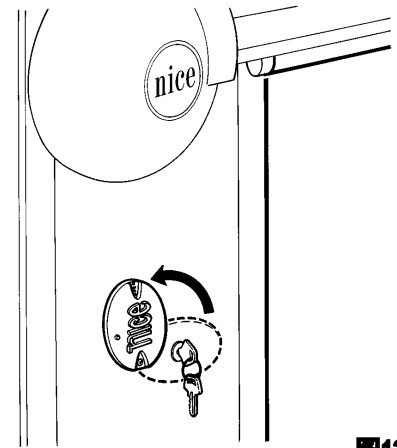
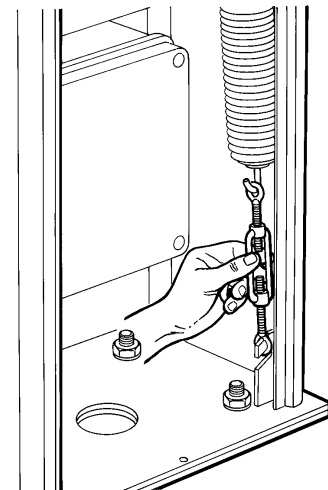
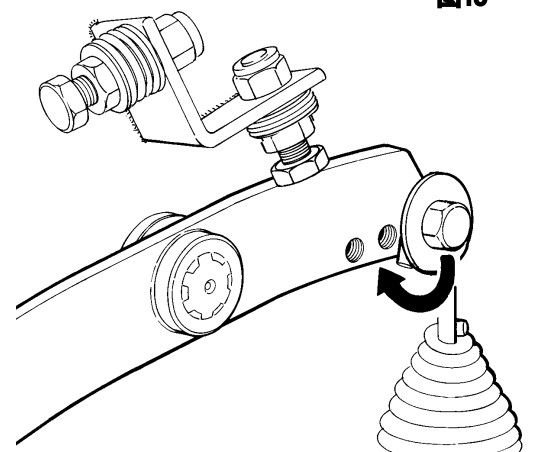

图13
图14
图15
- A) Lift the lock cover as shown in Fig. 13.
- A) 打开图13上的锁盖
Correct balancing is essential if the boom gate is going to work properly. Rectify balancing only when the bar is mounted and with all the accessories installed (if any). Release the boom gate (manual functioning see Fig. 13) and act on the springs adjusting tie-rod (Fig. 14). The bar is properly balanced when it stays at an angle of 45° without falling or rising. If you are using a very short bar without any accessories, the power of the spring will be far too strong: in this case connect the spring to the 2nd hole of the gearmotor output lever, see Fig. 15.
首先松开道闸（手动操作见图13），然后调整弹簧调节扣（见图14）。
在这种情况下，可把弹簧连接在平衡杠杆的第二个孔上（见图15）。